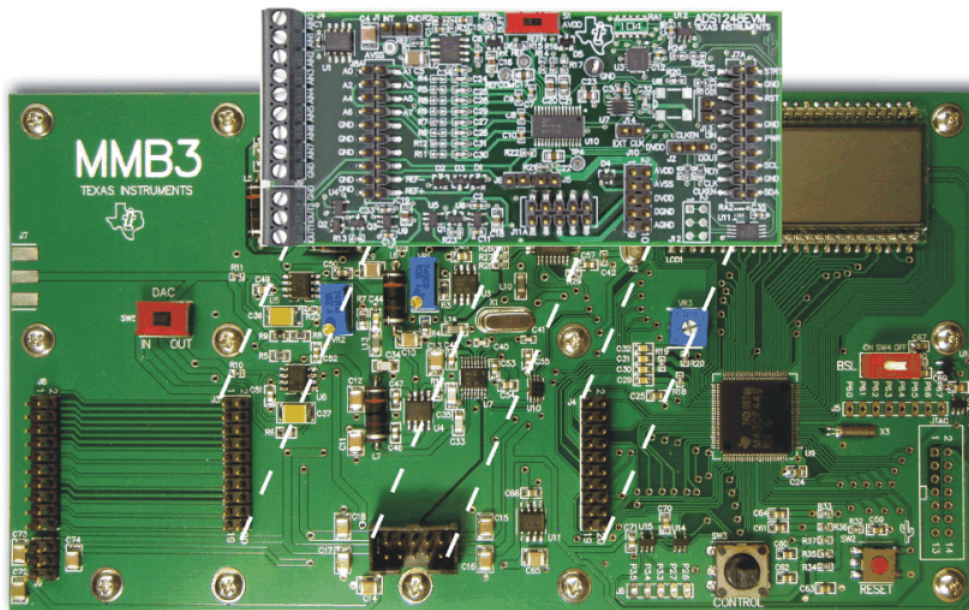

Figure 7. Connecting ADS1248EVM to MMB3
- Step 3. Plug the ADS1248EVM into the MMB3 as Figure 7 illustrates.